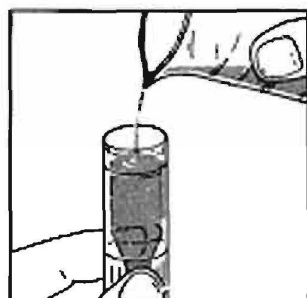

Figure 20. Filling SEDI-CAL Tube to Upper Calibration Mark
- Thoroughly mix the fresh urine specimen and pour into the SEDI-CAL Tube to the upper calibration mark as shown in Figure 20. If the SEDI-CAL Tube is filled exactly to this calibration mark; it will contain 4 ml of urine and the concentration of the sediment sample for examination will be approximately 20X. If less specimen is used, the concentration will also be less.